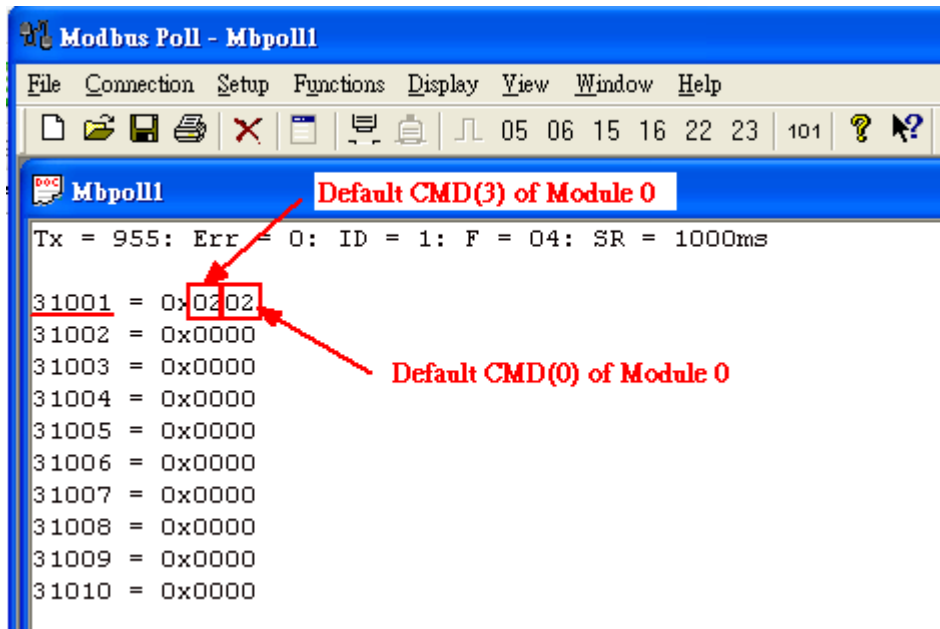

Figure 7-1 The status of the Default CMD(0&3) in Module 0
In the Figure 7-1, the status of the Default CMD(3) in Module 0 is 0x02. It means that the HART device for the Default CMD(3) is disconnected from HRT-710. (In the Figure 7-1, the status of the Default CMD(0) is 0x02, too.)